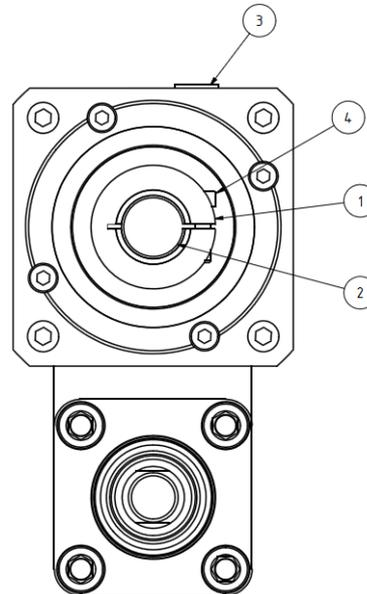

Figure 6
- ◆ Align the slot of the clamping ring (figure 6 pos. 1) and the spacer sleeve (figure 6 pos. 2) to the slot of the hollow shaft.
- ◆ Align the hollow shaft so that the clamping screw (figure 6 pos. 4) stands over the opening of the flange.